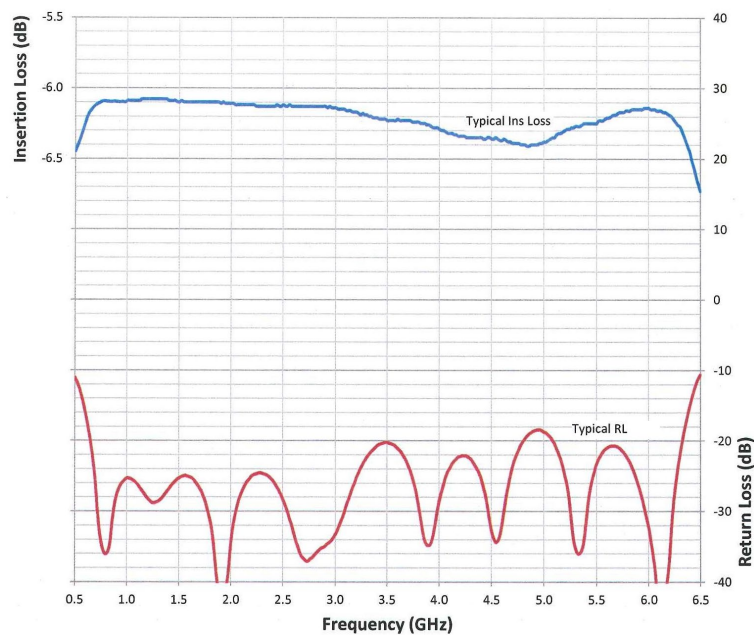

Figure 4-5. Typical 4-Way Combiner Insertion and Return Loss
6. A typical Four-Way Combiner insertion loss is shown in Figure 4-5; a typical combined port return loss is shown in Figure 4-5. The unused port must be terminated when checking the insertion loss.
NOTE: The return loss of the Four-Way Combiner's combined output port is typically better than 17 dB (See Figure 4-5).